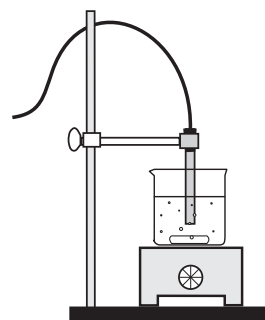

Figure 1
3. Connect the Salinity Sensor to the data acquisition interface. Support the Salinity Sensor Probe with a clamp that is mounted on a base and support rod (see Figure 1). Place the hot plate with magnetic stirrer below the tip of the probe.